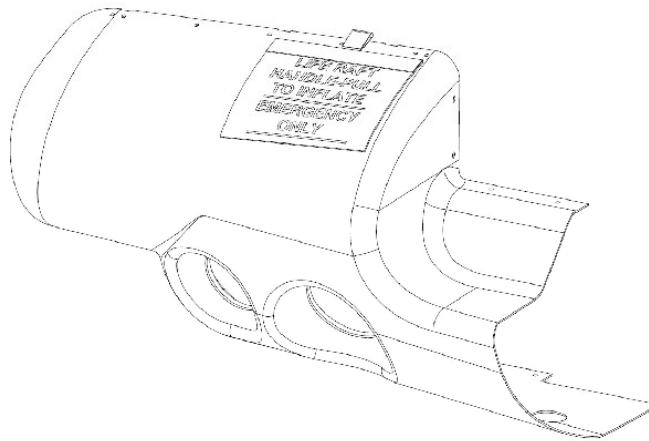
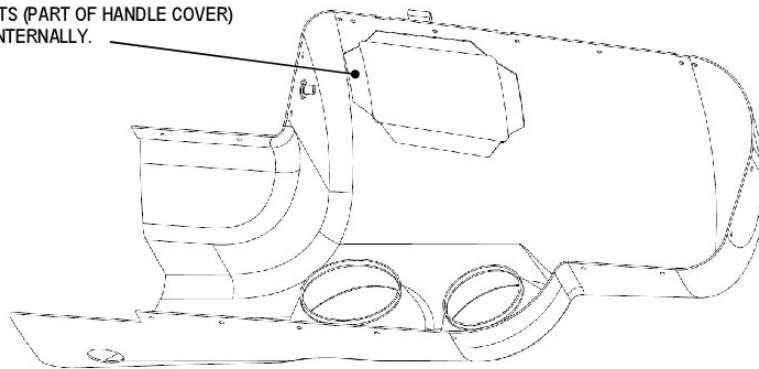

Figure 2 – New Handle Cover applied on fairing
Figure 3 – New Handle Cover applied on fairing (internal side view)
- (4) Place the new handle Cover P/N 307463B to the fairing and joint gradually, ref. to figure 2. Fold back the four textile winglets of the Handle Cover to bond them to the internal side of the fairing, ref. to figure 3.
- (5) Let adhesive to cure for at least 24 Hours prior to try opening the Handle Cover.
- (6) Modify the part number of Double Head Light Fairing (Part is identified internally, ref. to figure 3). Use a permanent marker (ref. to paragraph 2.A) to cross the current part number 202811A (for right instl) or 202812A (for left instl) and add new part number 202811B (for right instl) or 202812B (for left instl).
- (1) Record compliance with this Service Bulletin in the component Log Card.
- (2) Record compliance with this Service Bulletin to the internal side of the Double Head Light Fairing Assy P/N 202688A or P/N 202689A (ref. to Figure 3). Use a permanent marker (ref. to paragraph 2.A) to mark the bulletin reference number (SB-139-25-004) close to the identification data modified as per step (6) of paragraph 3.A.